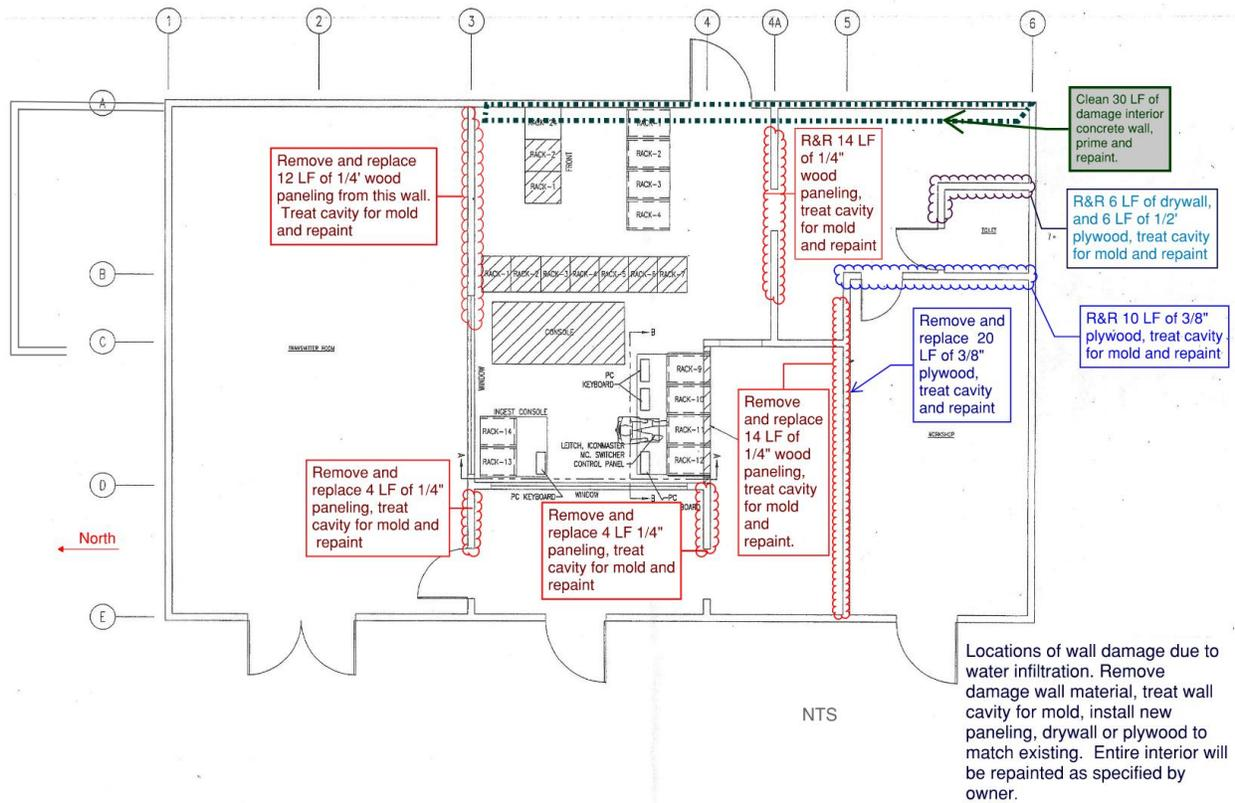

Figure 7 Water damage walls
6. Remove and replace 850 sf of damaged interior ¼-in wood paneling, ½-in gypsum wallboard and 3/8-in plywood in locations shown in Figure 7.